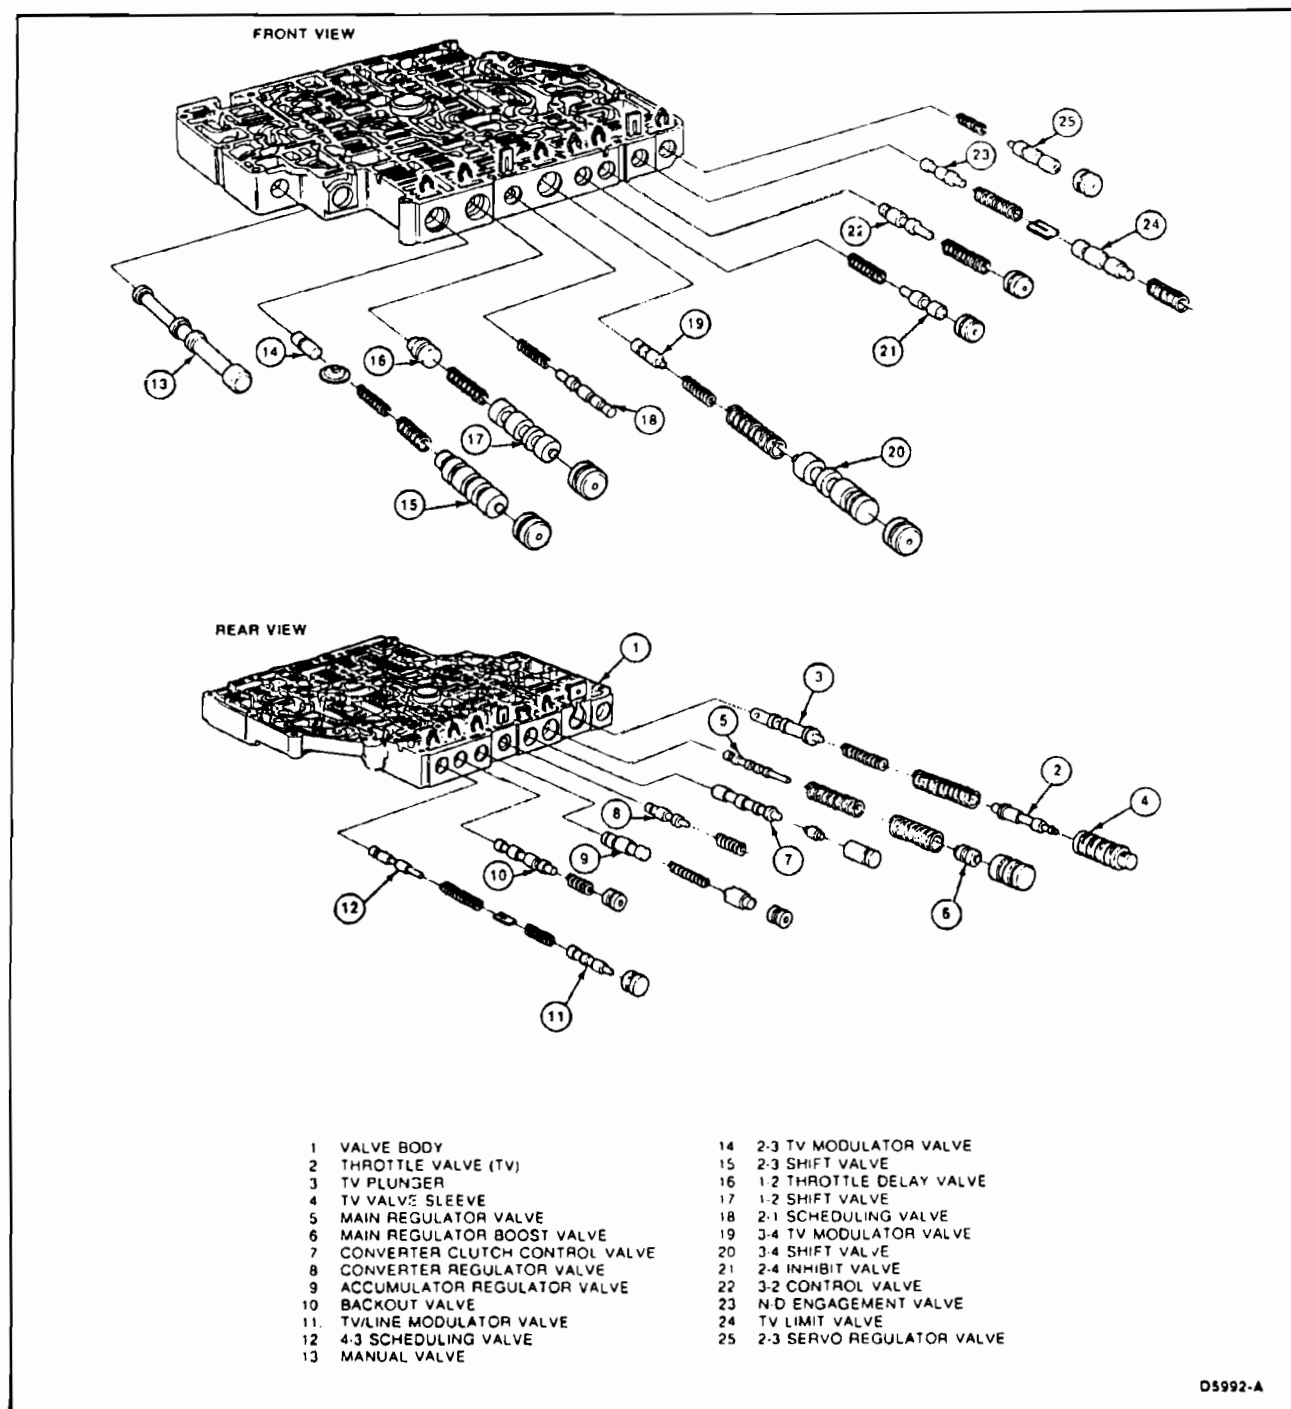

Figure 1
- (3) THROTTLE VALVE - (No. 2 in Figure 1).